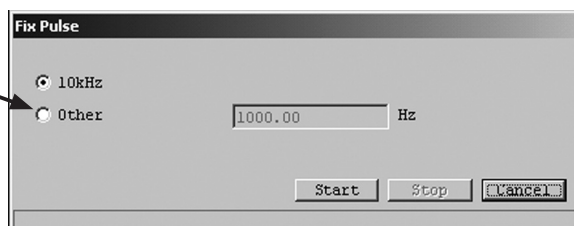

Fig.61
- ① Click on "Diag/Service (T)" at top-level menu of the screen, select "Fix Pulse" from the "Loop test" drop-down list, and click on again.
- ② A message box like the one shown in Fig. 61 appears. Select the simulated output and click on "Start" button. To provide an output other than "10kHz", select "Other" key in the pulse frequency you want for the output, and then click on "Start". Acceptable pulse frequency ranges from 0.01 to 10000Hz.